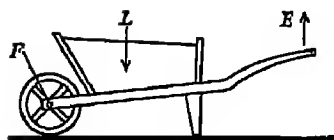

FIG. 143.
1. The **wheelbarrow** (Fig. 143). The fulcrum is the axle of the wheel, the effort is at the end of the handles (half the effort applied to each handle), and the load is between the fulcrum and the effort.